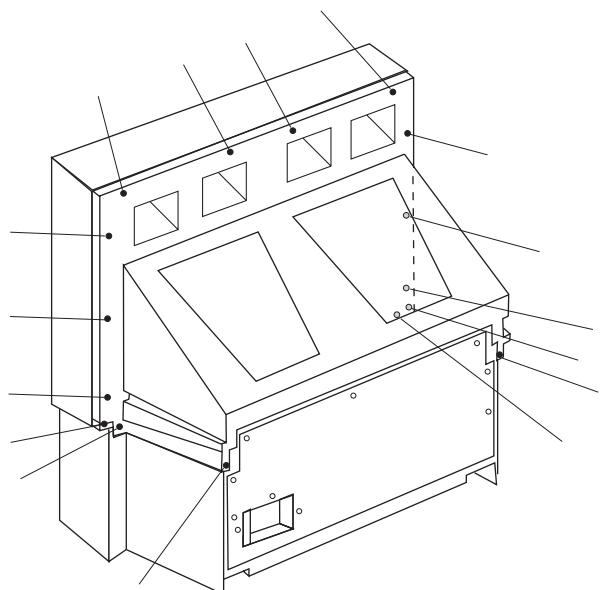

Figure 10. Cabinet Back Cover Removal
(Figure 10)
2. The top back cover is secured with (16) screws around its perimeter (See Figure 10 for screws location).